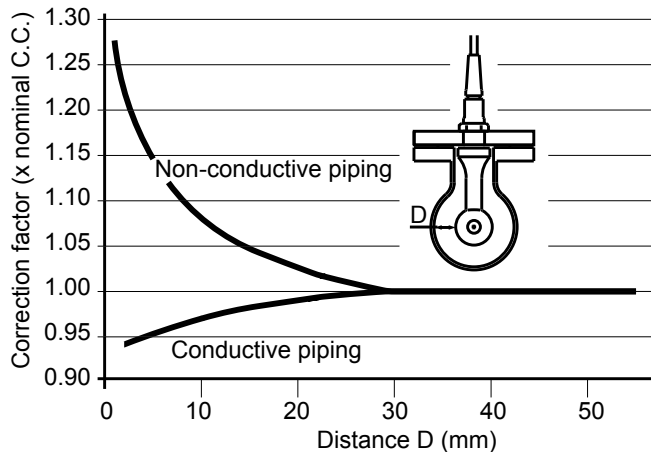

Figure 11.3 Relationship between the distance from the sensor to side wall and the cell constant
- If the sensor is installed in piping that is long in the axial direction with the cross section as shown in Figure 11.3, the cell constant of the sensor installed in the piping (reference data for a design center value of 1.88 cm^{-1}) is as shown in Figure 11.3. A value obtained by multiplying the value on the sensor cable marker and a value read from Figure 11.3 should be entered.